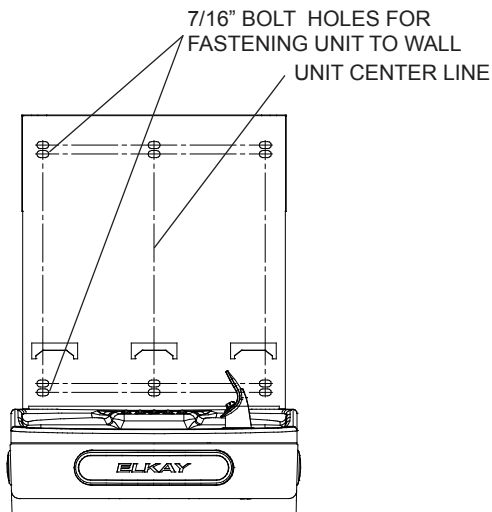

Fig. 4
- 2) Remove wall mounting plate from Bottle Filler. Place wall plate against wall on top of basin. Center the wall plate side to side with the basin. Mark the six (6) mounting holes with a pencil (See Fig. 4).
- 4) Install wall mounting plate to wall using six (6) 7/16" obround mounting holes (mounting bolts not included) (See Fig. 4). Use appropriate fasteners for your wall type.